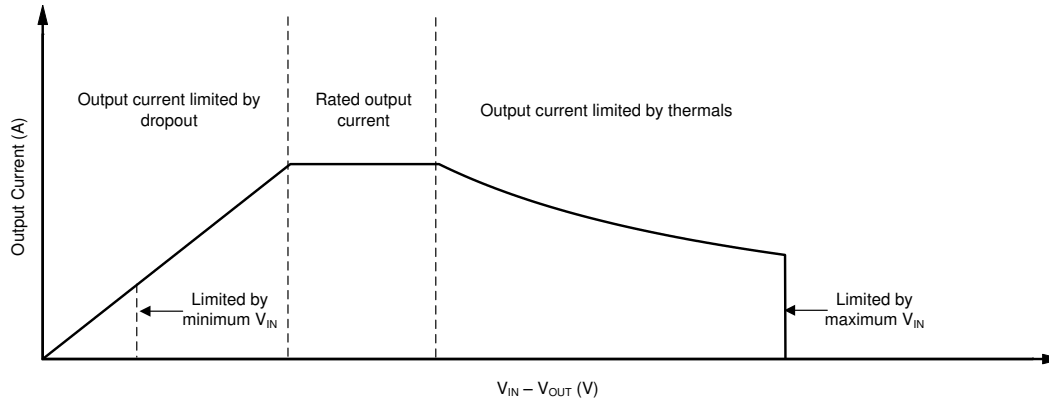

Figure 7-3. Region Description of Continuous Operation Regime
The operational area of an LDO is limited by the dropout voltage, output current, junction temperature, and input voltage. The recommended area for continuous operation for a linear regulator is given in 図 7-3 and is separated into the following parts:
- The shape of the slope is depicted in the third region of Figure 7-3. The slope is nonlinear because the maximum-rated junction temperature of the LDO is controlled by the power dissipation across the LDO. Thus, when $V_{IN} - V_{OUT}$ increases the output current decreases.
Figure 7-3 shows the recommended area of operation for this device on a JEDEC-standard high-K board with a $R_{\theta JA}$, as given in the *Thermal Information* table.